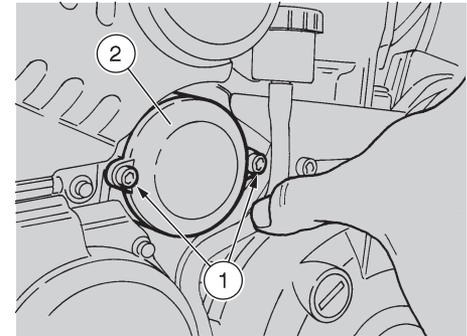

Fig. 29
- ◆ Unscrew the two screws (1-Fig. 29) and remove the cover (2-Fig. 29).
- ◆ Put the cover (2-Fig. 29) back and tighten the two screws (1-Fig. 29).